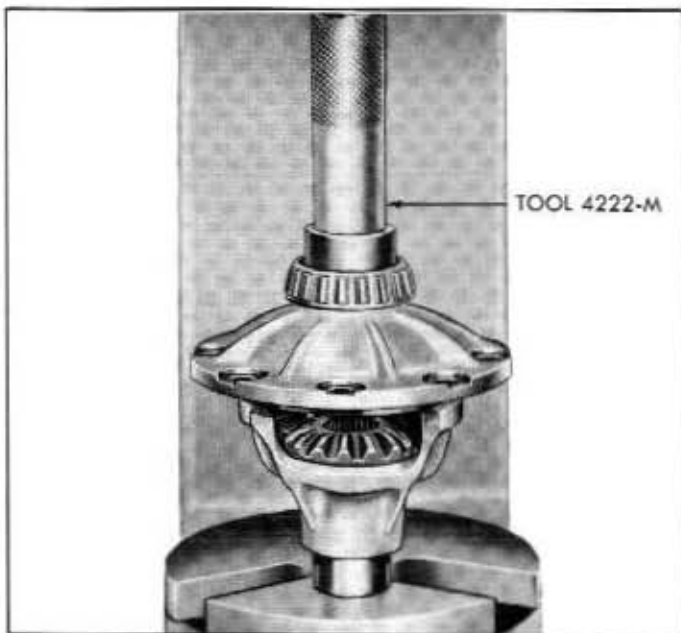

Fig. 4-30—Installation of Differential Bearing Cones (61CM-5204)
7. Press the differential bearing cones onto the differential assembly with Tool 4222-M as shown in figure 4-30.